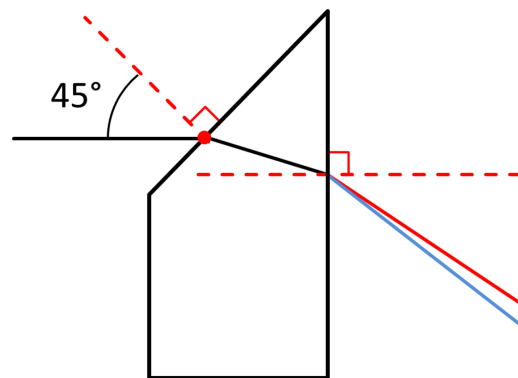

Figure 6: Dispersion Lines
4. Remove the rhomboid from the paper and use the ruler to draw a line to represent the light ray inside the rhomboid: from the point where the light enters the rhomboid, to the point where the light exits the rhomboid at the dispersion interface. See Figure 6.
5. Use the ruler to draw a line to represent the red light ray (one edge of the dispersed light): from the point where the light exits the rhomboid’s dispersion interface, to the point where the light reaches the edge of the paper. See Figure 6.
6. Use the protractor to draw a line normal to the dispersion interface at the point where the light ray exited the rhomboid. See the dashed line at the right in Figure 6.